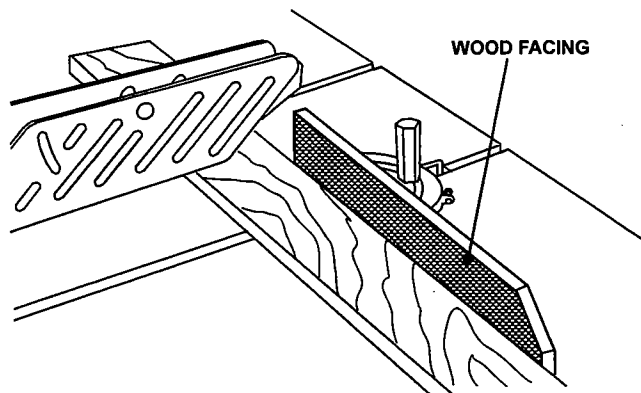

FIGURE 14
6. For increased safety in crosscutting, use an auxiliary wood facing attached to the miter gauge using the holes provided, Figure 14.